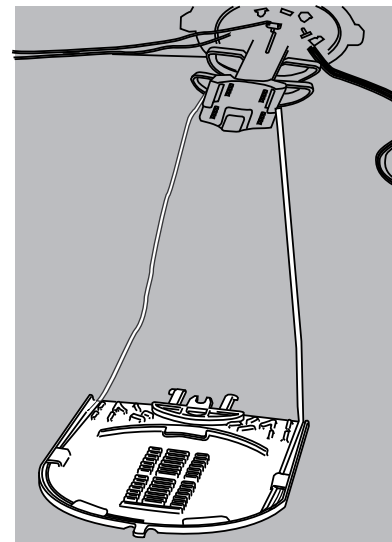

FIGURE 12
12. Extend the splice tray and buffer tubes away from the splice area and cable butt. This will be your reference point for all additional preparation and splicing. (Figure 12)